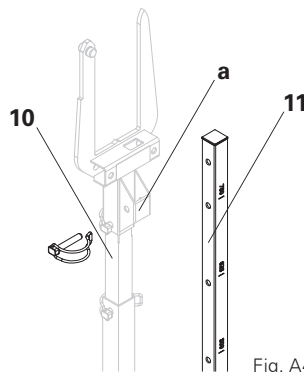

Fig. A4.03
2. Pull the measuring rod (11) of the Distance Device (10) out of the holder (a). (Fig. A4.03)